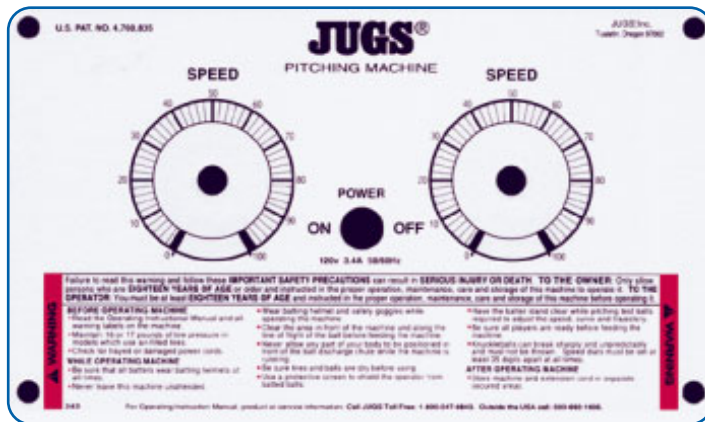

Figure 4. Control Panel
1. Place toggle switch on the Control Panel in the ON position (Figure 4.) Gradually turn right-hand speed dial to full clockwise position. The right wheel will be turning rapidly clockwise and the left wheel will be turning slowly counter-clockwise.